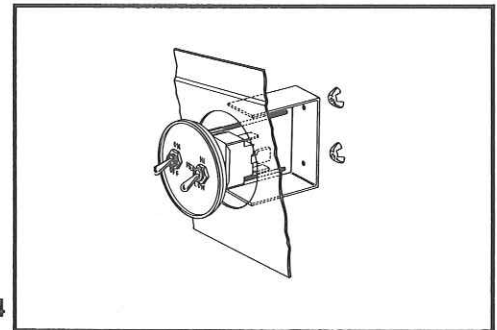

Fig. 34
2. Install the switch group and attach the bracket with the two nuts as shown in Fig. 34.